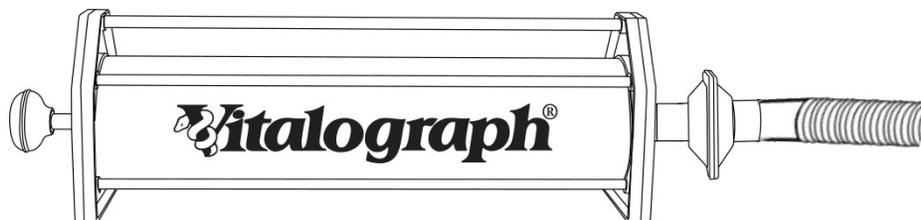

Figure 3: Verifying Calibration
1. Attach the breathing tube to the 3-L syringe with a BVF fitted as per figure 3.